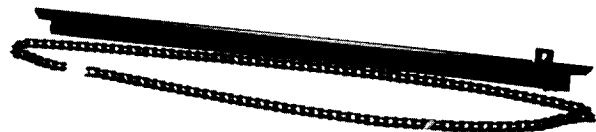

Fig. 9 Spreader Assembly
- (a) Attach spreader assembly (Fig. 9) with four (4) hex head .25" (6.35mm) bolts with flat and lock washers to mounting holes in blocks at rear of right and left racking mechanisms and torque to 6-8 foot-pounds (8.1-10.8Nm).